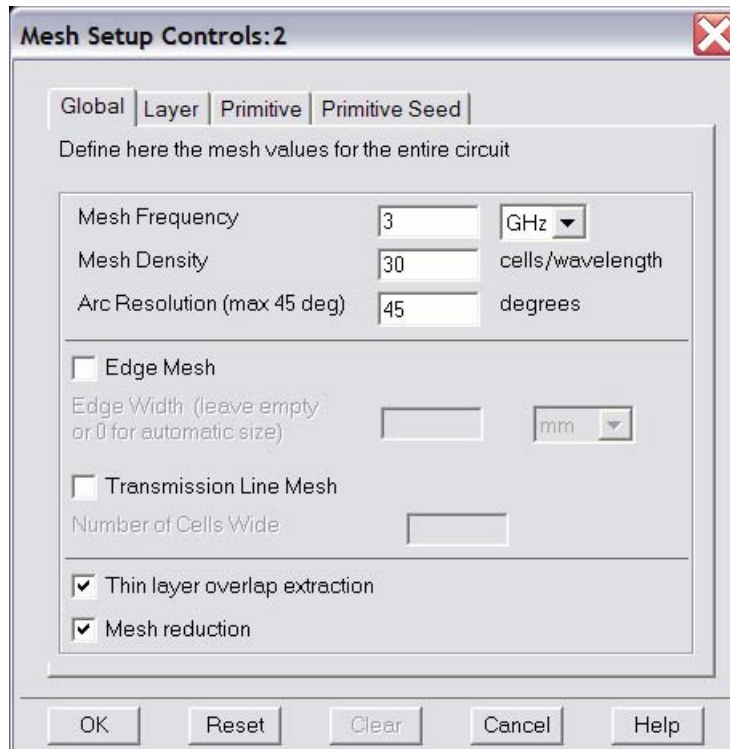

Figure 7.
12. Select “Momentum \rightarrow Mesh \rightarrow Setup” and the “Mesh Setup Controls” window pops up. In this window, you can enter the parameters of the mesh such as the highest frequency of operation and the number of cells per wavelength, and the edge cell parameters. In the “Global” tab choose 3 GHz as the mesh frequency, 30 as the number of cells/wavelength, and make sure that the Edge Mesh check box is NOT checked. Click OK to finish setting up mesh parameters. The setup is shown in Figure 7.